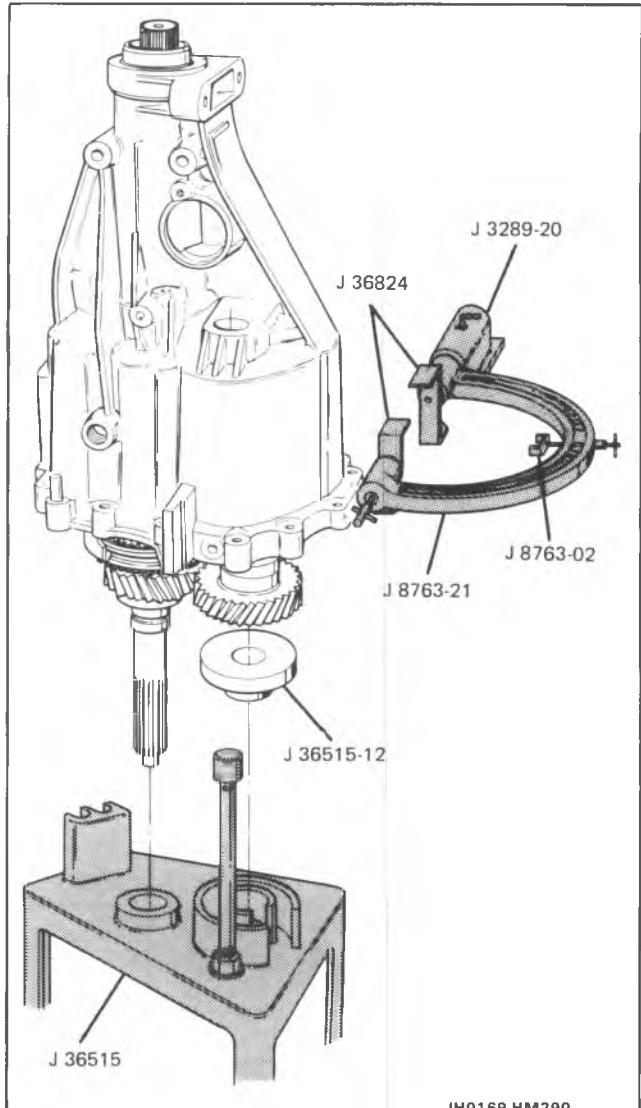

Figure 16 Removing and Installing Special Tools
- Drive through the plug hole (326) enough to expose the roll pin hole (107) then insert a 3/8 punch or equivalent through the roll pin hole (107) and pull (while twisting) out the shift rail.
22. Two interlock balls (323).
- Install J 36515 with J 36515-12 (Figure 16).